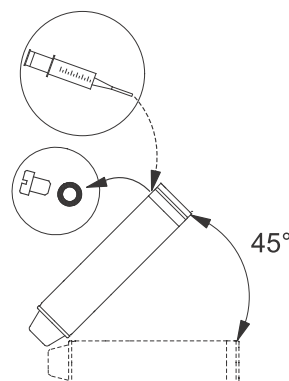

Fig. 4 Motor position during filling - MS6 and MS 6000
- If the motor is delivered from stock, the liquid level must be checked before the motor is fitted to the pump. See fig. 4.
- In the case of service, the liquid level must be checked. See fig. 4.
1. Position the submersible pump as shown in fig. 4.
3. Inject liquid into the motor with the filling syringe (see fig. 4) until the liquid runs back out of the filling hole.